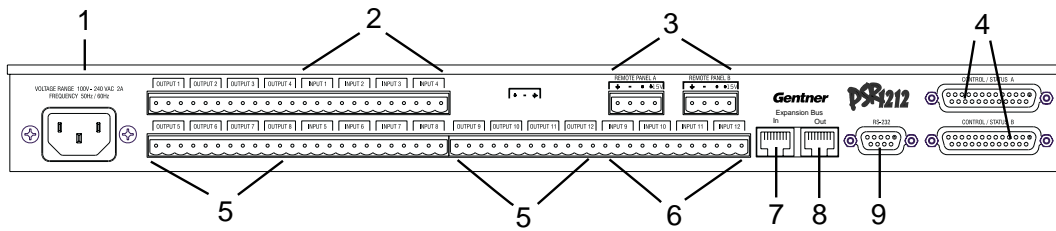

Figure 2. Rear Panel
1. Power This power module (see Figures 2 and 3) accommodates power ranging from 100–240VAC, 50/60Hz. The module uses an IEC-type connector. No switching is required.
2. Inputs 1-8 This bank of Phoenix™ block connectors (see Figures 2 and 4) is for connection of eight mic-level or line-level (selectable) inputs. This bank of connectors is typically used for mics, but can be configured for use with VCRs, CD players, etc. These inputs can be mixed in any gated or non-gated combination and routed to any of the 12 outputs. Default input level is -55dBu. For more information about input adjustments, see page 36. For electrical specifications, see Appendix A: Specifications.
3. RS-485 Remote Panel A/B Port These four-pin Phoenix connector ports (see Figures 2 and 5) allow you to control the PSR1212 with the Gentner Control Panel.
4. Control/Status Ports A and B These two female DB25 connectors (see Figures 2 and 6) are for connecting control devices to the PSR1212. The control devices have access to the command set for the PSR1212 and can be used for common functions such as volume control, muting, preset change, room combining, etc. Devices can be connected to either port.
5. Outputs 1-12 These three-pin Phoenix connectors (see Figures 2, 7, and 8) is for connection of eight line-level balanced outputs with three-pin Phoenix connectors. These outputs are typically used for connection to
6. Inputs 9-12 These Phoenix connectors (see Figures 2 and 9) are for connection of up to four line-level inputs. These are typically used for connection of VCRs, tape players, CD players, and other audio sources. They can be routed to any output or multiple outputs. Nominal level is 0dBu.
7. Expansion Bus In This RJ45 connector (see Figures 2 and 10) is used for connecting additional PSR1212 units. The first PSR1212 unit in the local Expansion Bus network must have the EXPANSION BUS IN connector terminated with an Expansion Bus terminator. The first PSR1212's EXPANSION BUS OUT connector is attached to the EXPANSION BUS IN connector on the next PSR1212, forming a daisy-chain network.
8. Expansion Bus Out This RJ45 connector (see Figures 2 and 10) is used for connecting additional PSR1212 units. The last PSR1212 in the local Expansion Bus network must have the EXPANSION BUS OUT connector terminated with an Expansion Bus terminator. The first PSR1212's EXPANSION BUS OUT connector is attached to the EXPANSION BUS IN connector on the next PSR1212, forming a daisy-chain network.
9. RS-232 This female DB9 serial port (see Figures 2 and 11) is for interconnection between the PSR1212 and a PC, modem, or other custom remote controller. For serial protocol, see Appendix B: Connector Pinouts.
Begin by placing the PSR1212s in their proper locations. The Expansion Bus In and Expansion Bus Out RJ45 connectors (see Figure 2) on the back panels are designed for setting up your Expansion Bus network. Expansion Bus connections between units are made in a daisy-chain fashion using category five twisted-pair cable.